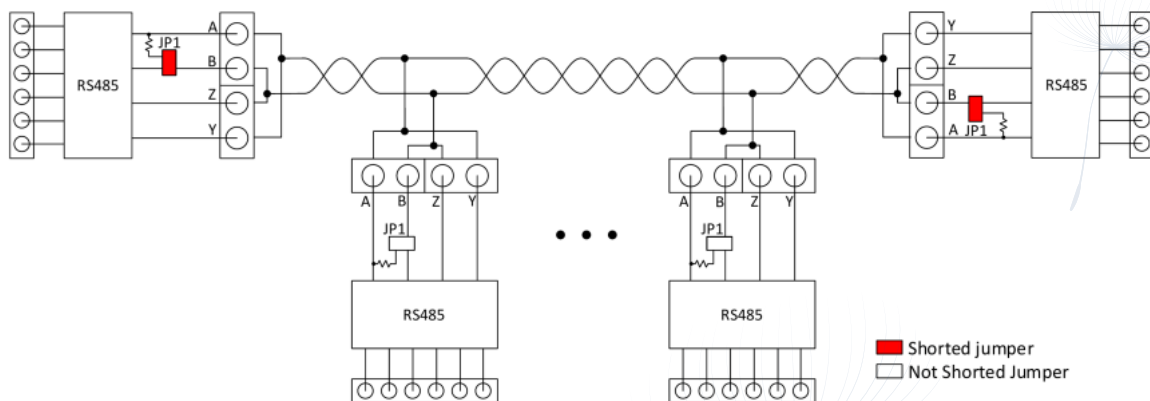

Figure 5 : Connections on the RS485 bus for half duplex communication
- At the output of the PmodRS485 module, pins A and Y must be connected together, as well as pins B and Z (see figure 5). For wiring with the RS485 network, see also the document entitled: "pmodrs485\_rm.pdf".
- Pin RxD (3) of the PmodRS485 module must be connected to the Rx of NextPM (pin 4 on the connector).
- Pin TxD (2) of the PmodRS485 module must be connected to the Tx of NextPM (pin 3 on the connector).
- Pin /RE (1) and DE(4) of the PmodRS485 module must be connected together and to pin CS of NextPM connector (pin 5).